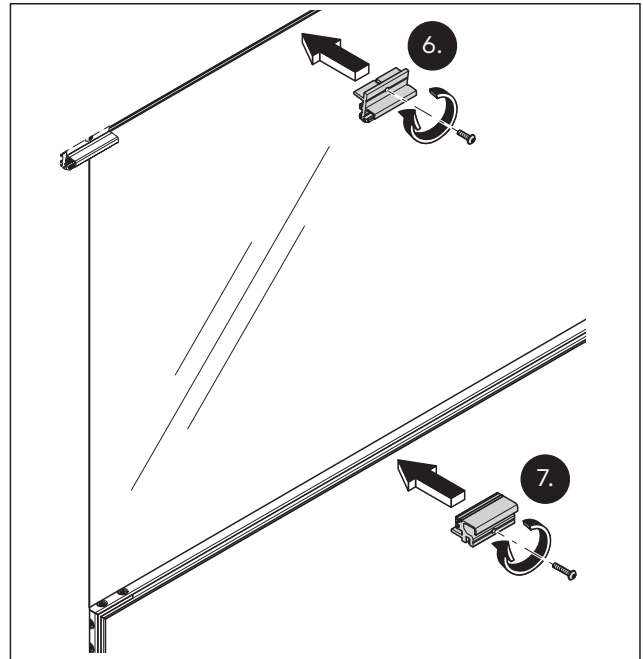

Fig. 38 Fix the overpanel horizontally to the base profile of the mounting profile (above) and to the base profile of the door frame (below)
6. Mount at least 3 clamping pieces per meter on the base profile of the mounting profile with a torque of 5 Nm (Fig. 38).